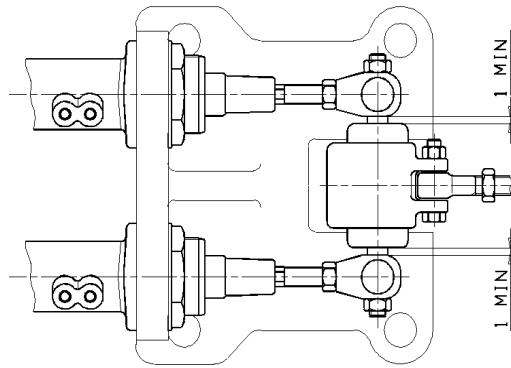

Fig. 1b
- e. Check that between the joints of the rod connecting the two push rods and the pedal there is a clearance of at least 1 mm each side, in order to allow the eventual inclination of the rod compared to the push rods axle (see Fig. 1b).